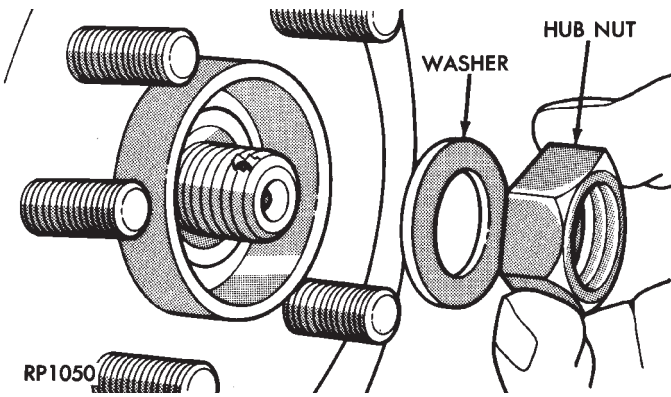

Fig. 15 Install Washer and Hub Nut
(1) Install washer and hub nut after cleaning any foreign matter from stub axle threads (Fig. 15).